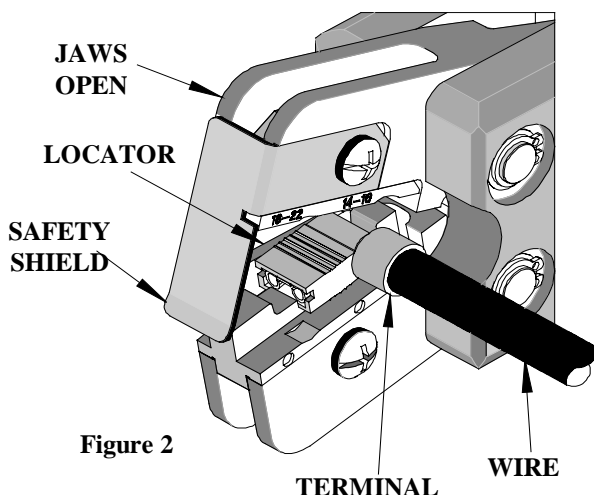

Figure 2
3. Push on the wire to assure it is fully seated in the terminal (See Figure 2 and 3). Cycle the tool.